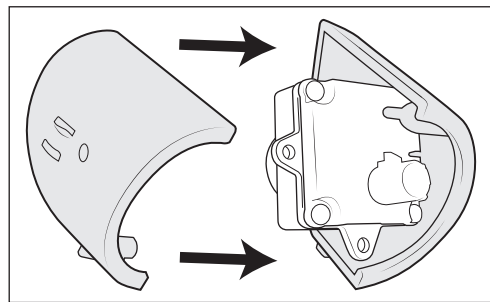

Figure 20
- Install factory camera into clamshell mount (fig. 20) and plug into 90° connector on wiring harness*.